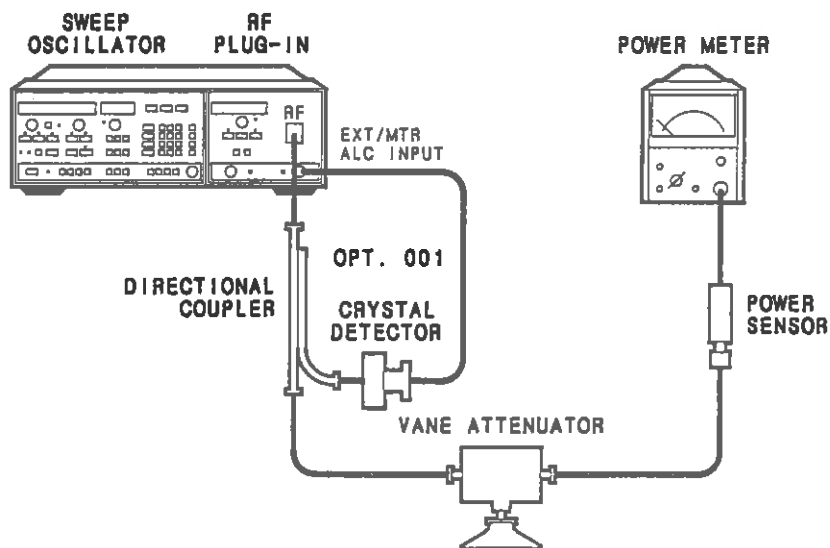

Figure 5-14. Power Calibration Adjustment Setup
1. Connect the equipment as shown in figure 5-14. Set the vane attenuator to 5 dB. On the sweep oscillator, press: